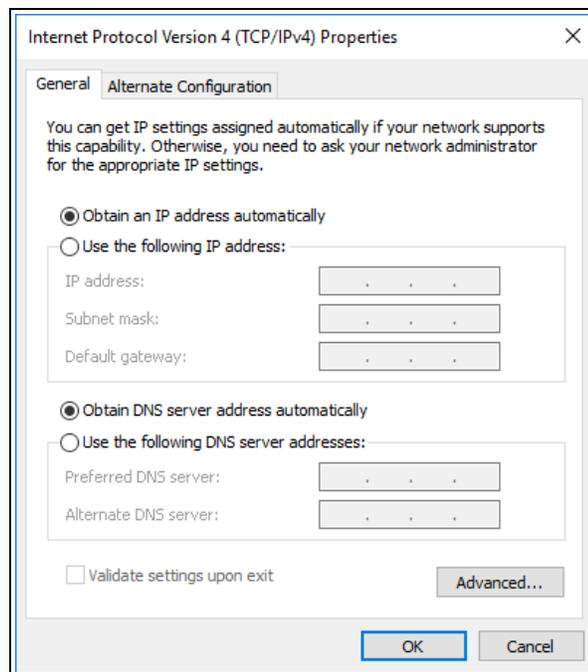

Figure 34: Default Example of Internet Protocol Version 4 (TCP/IPv4) Properties dialog box
- The **Internet Protocol Version 4 (TCP/IPv4) Properties** dialog box opens. Figure 34